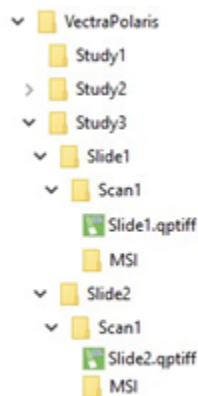

FIGURE 5.5. Data file structure.
2. Select the location within the Data File structure to save the project. (See Figure 5.5.) In the File name field: